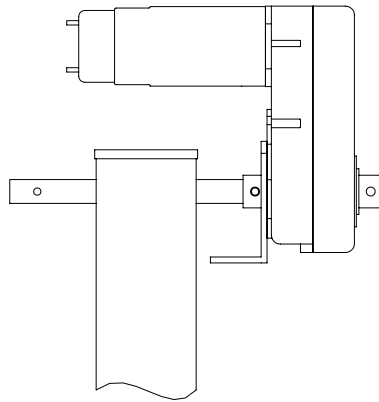

Figure 1.
4. Slide the motor and face plate over the landing gear output shaft. Refer to figure 1 below.